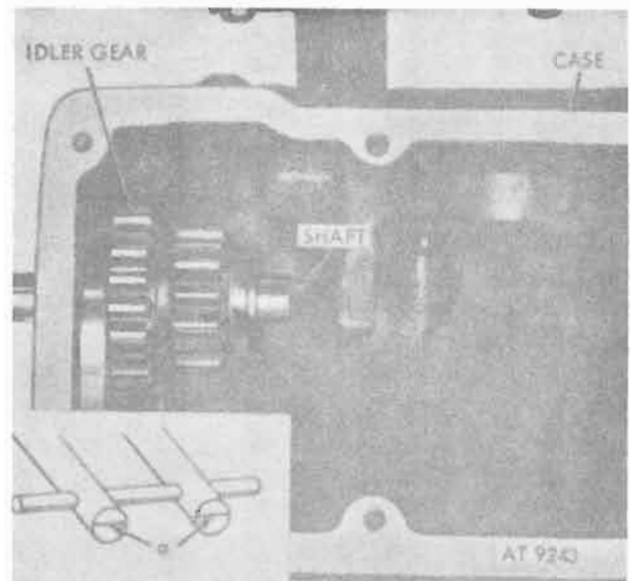

Figure 8-110. Low and reverse idler gear—installed view.
a. Position low and reverse idler gear and shaft in transmission case (fig. 8-110).